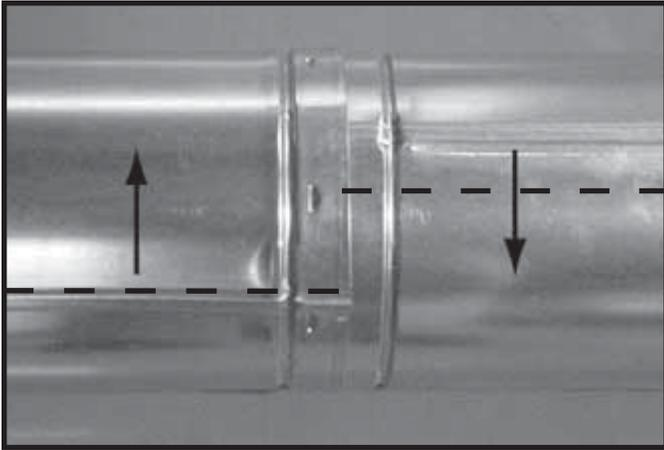
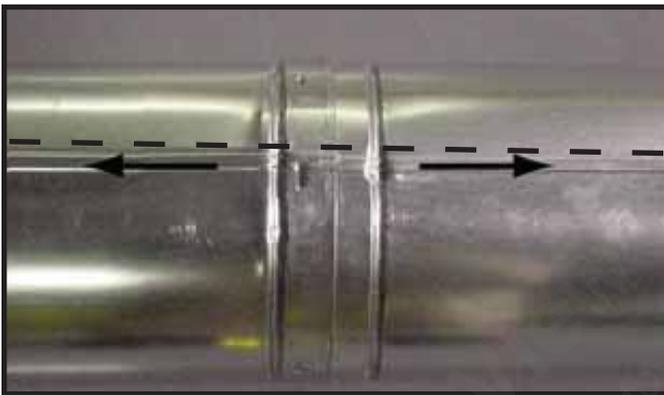

Figure 8.7 Rotate Seams for Disassembly
Figure 8.8 Align and Disassemble Vent Sections
- Rotate either section (see Figure 8.7) so the seams on both pipe sections are aligned as shown in Figure 8.8.